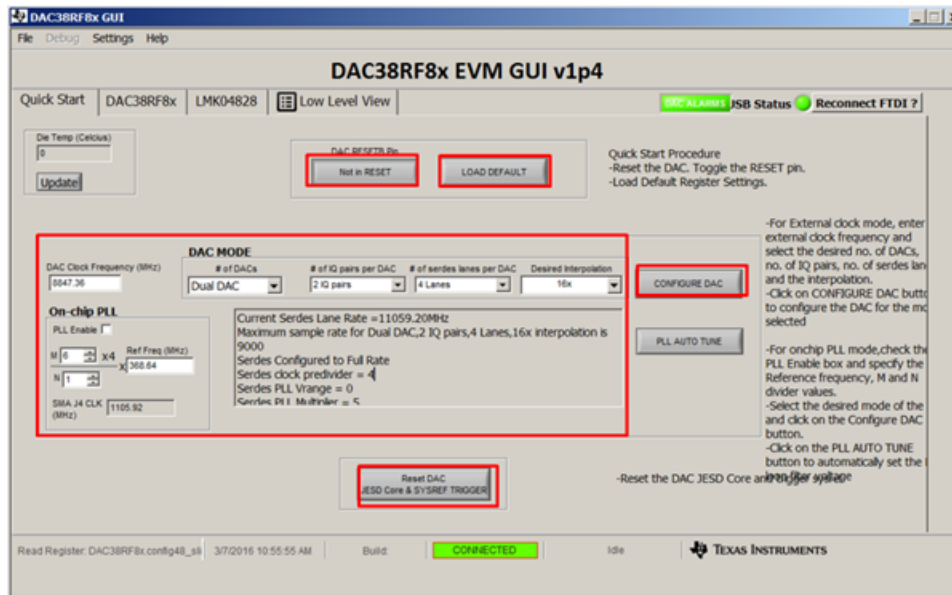

Figure 14. Quick Start Page of GUI
5. Set the value as shown in Figure 14, then click on the CONFIGURE DAC button to configure the DAC38RF83 according to the setting created.